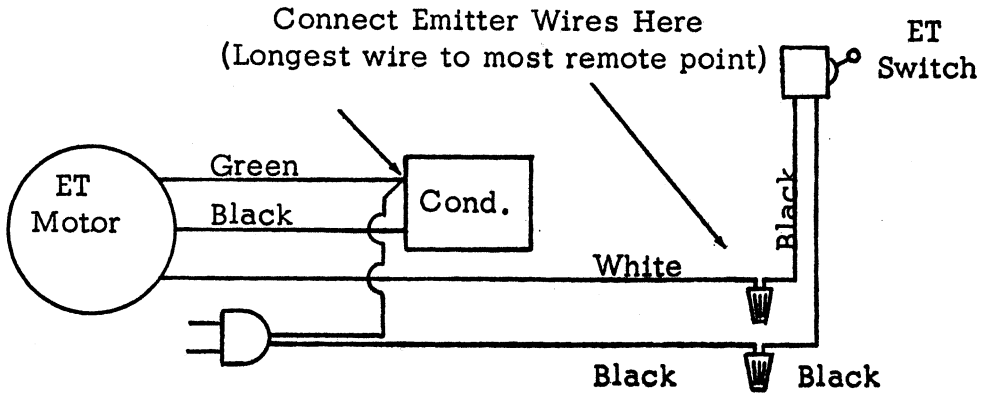

Figure 1. AC Installation Wiring Diagram
4. Mount the impulse emitter to the power frame in position to be operated by the ribbon lift link on each typebar stroke. Connect one lead at the solderless connector which joins the motor switch lead and the white lead from the motor. Connect the other emitter lead to the capacitor terminal to which are connected the green lead from the motor and one side of the line cord (Figure 1).